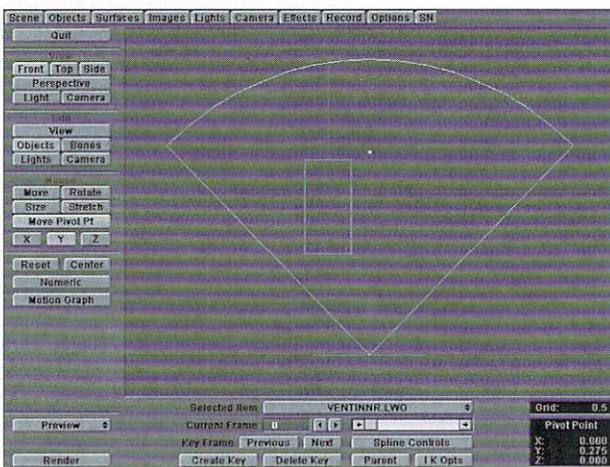

Figure 12: The VentInner.lwo object with its pivot point shifted in the Y-axis.
- Load in the VentInner.lwo object, select the Front view to eliminate parallax, and click Move Pivot Point. Disable movement in the X- and Z-axes and slide the pivot point upwards until it sits on an imaginary line between the two edges (that is to say, the axis we've selected for this object) (Figure 12).